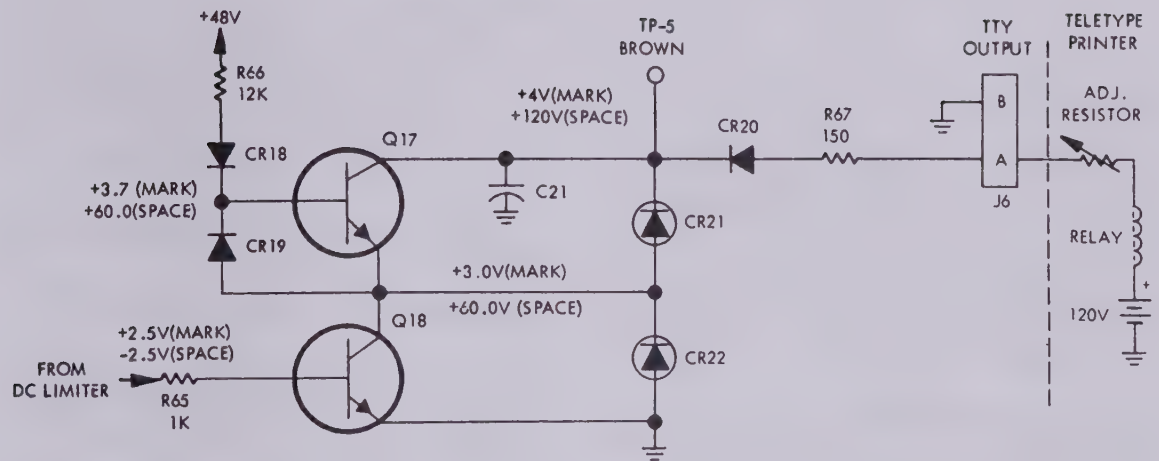

Figure 4-6. Loop Keyer and Teletype Printer Keying Circuits
(2) AXIS RESTORER. - The axis restorer maintains the signal axis at ground potential and restores signal symmetry when the transmitter or receiver frequency drifts during operation. The positive mark signal from the dc differential amplifier charges C17 and C18 through CR9 which clamps the signal to ground. The negative space signal
(5) LOOP KEYS. - The function of the loop keyer, Q17, Q18, and associated circuit, is operation of the teletype printer loop relay. The teletype printer loop keyer circuit consists of a 120 volt dc power supply, a relay winding, and a variable resistor used for adjusting the loop current to 60 ma (see figure 4-6). The 120 volt dc at J6 is applied across Q17, Q18, and R67 in series. When a positive (mark) signal is applied to the base of Q18, the forward base-emitter bias of Q18 is increased and Q18 conducts heavily. The heavy emitter-collector current in Q18 causes the emitter of Q17 to become more negative and Q17 conducts, closing the teletype printer keying relay. When a negative (space) signal is applied to the base of Q18, the forward base-emitter bias is reduced. This lowers the emitter-collector current of Q18 and the forward base-emitter bias of Q17, opening the teletype printer relay. The relay remains open until another positive (mark) signal is applied. Diode CR19 prevents a large emitter-base voltage (caused by an increase in the emitter-collector resistance of Q18) from damaging the emitter junction of Q17. Diode CR18 prevents the teletype power supply